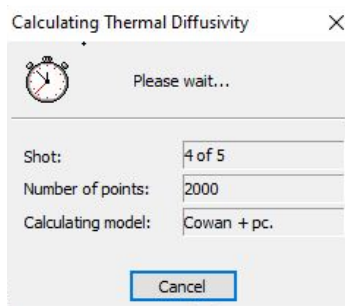

Figure 40. Shots being calculated pop-up window.
- A pop-up window will display the shots being calculated (as shown in Figure 40).